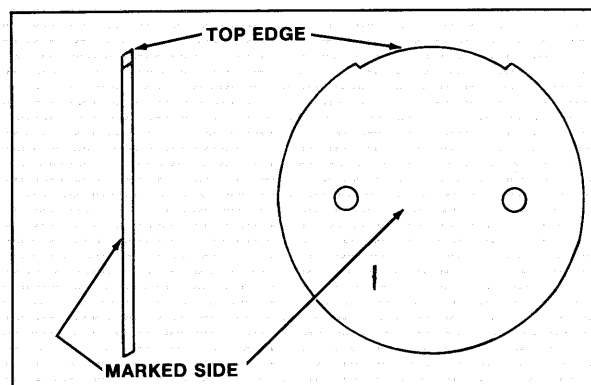

Figure 3—Installing Shutter
- C. Note that edge of shutter is angled and a mark stamped on one side. When installing, install shutter with cut out portion in first and marked side up as shown in figure 3. Slip shutter in through slot in throttle shaft. Release throttle shaft arm and seat shutter in bore of carburetor. Shutter must seat in bore of carburetor with no air gaps. Install screws to secure shutter.